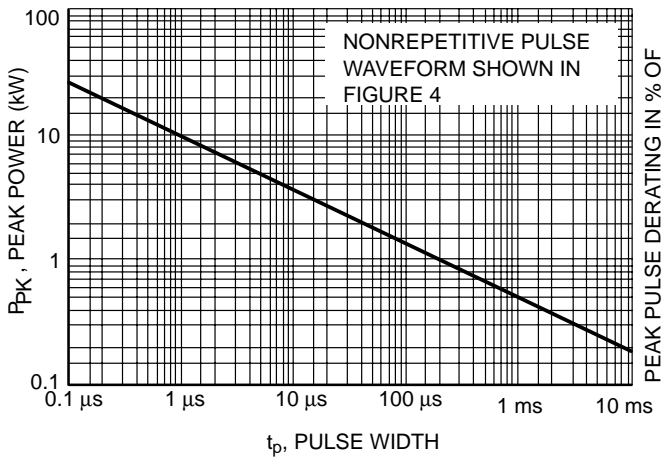
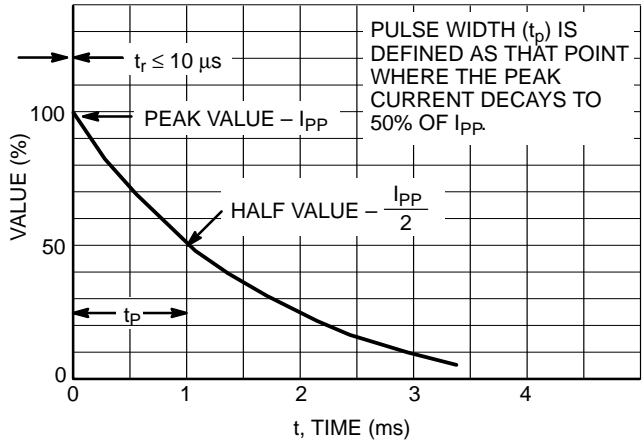

Figure 1. Pulse Rating Curve
Figure 4. Pulse Waveform
5. Surge current waveform per Figure 4 and derate per Figures 1 and 2.